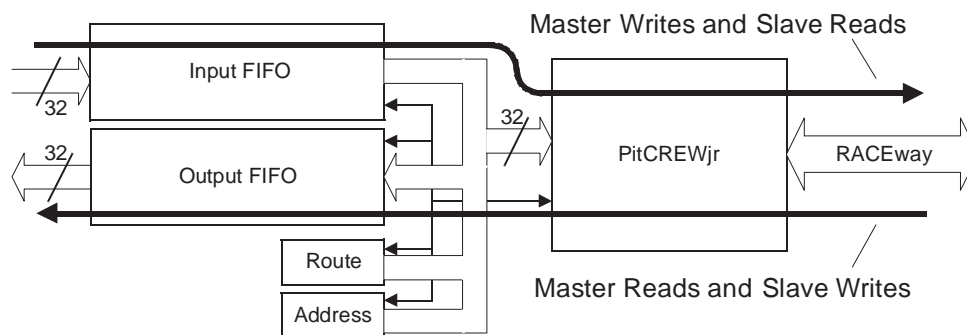

Figure 1. PitCREWjr Data Flow
*Figure 1.* The PitCREWjr has no programmable internal registers. Internal PitCREWjr state machines assemble and disassemble the route, address, and data long words embedded in the RACEway protocol. RACEway mastering is accomplished by controlling a single input signal. *Figure 2* shows the block diagram for PitCREWjr and *Table 1* shows the driver and signal name description for each pin on the PitCREWjr controller.